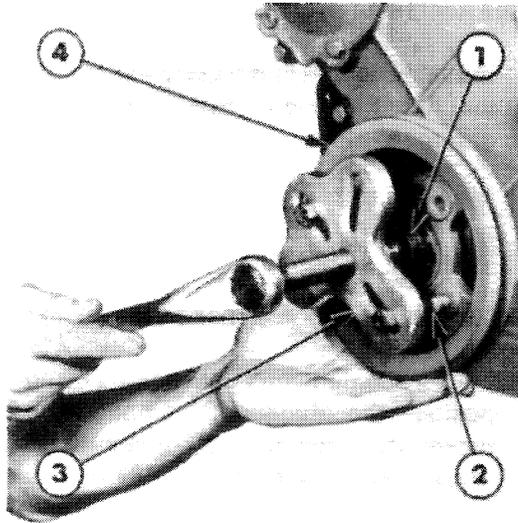

Figure 19
3. Using Puller No. 518 and Shaft Protector No. 625-1, remove the crankshaft pulley, Figure 19.